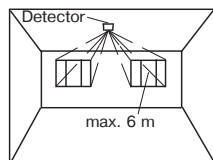
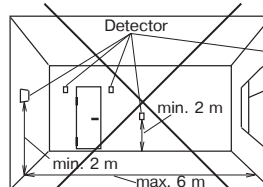

Figure 3 – Installing the Detector on the Ceiling
Figure 8 – Unauthorized Detector Installation Places
Installation height	at least 2 m (see Figures 3 – 7)
- it is recommended to install the Detector at least 2 m height (see examples of installation in Figures 3 – 7);
Correct Detector installation options see Figures 3 – 7, the incorrect one – Figure 8